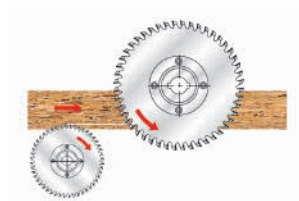
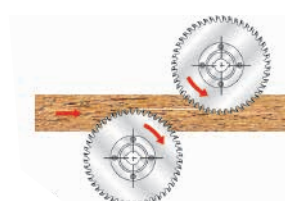

Fig.1 Scoring blade / Shredder
Fig.2 Double shredder
- The most common arrangement in double end tenoners is with scoring blade and hogger against the feed (fig1) or double hogger with the feed (fig 2) and slots in "V grooving" for special folding machines (fig3).